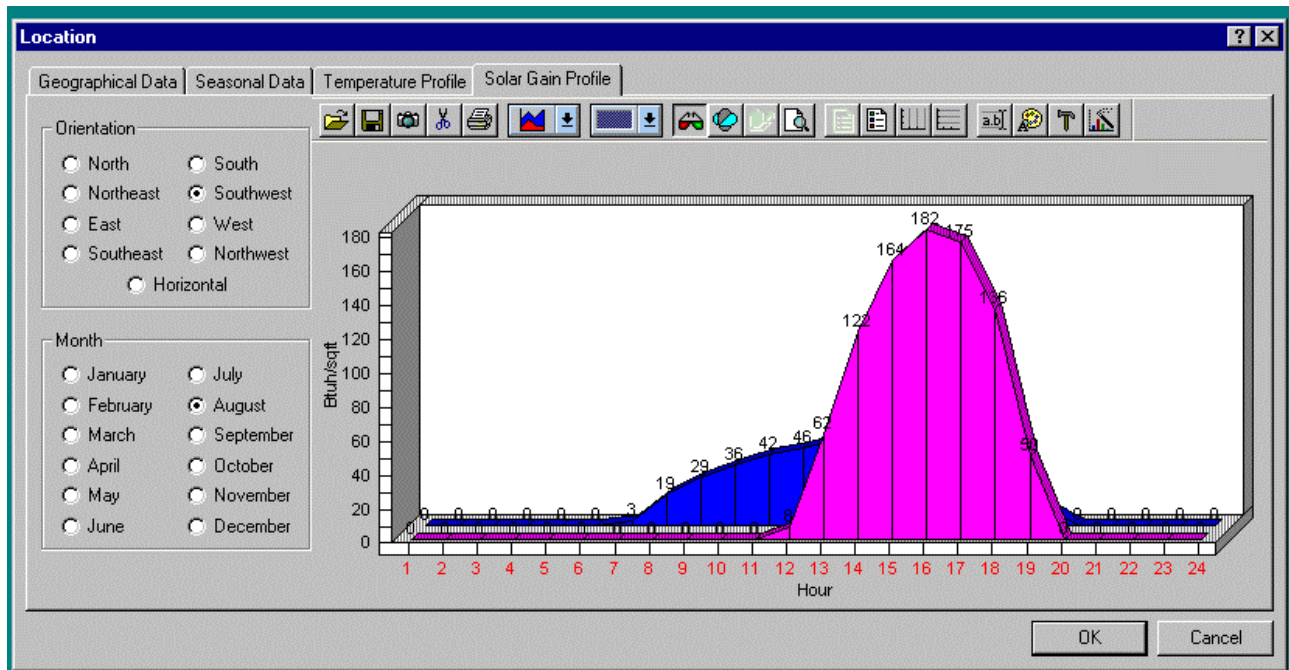

Figure 2: Load-based solar gain profile
- The Location Library contains design data and climate zones associated with 641 California ASHRAE locations and allows you to define additional locations. EnergyPro automatically creates a temperature profile and load-based solar gain profile (Figure 2) for each location. You can customize the graph format to display in several styles, colors and fonts. View and print the hourly direct and diffuse solar incidence (in Btuh/sqft) on your project at each of eight orientations during each month. The temperature profile shows dry bulb and wet bulb temperatures at specific design conditions for each month. You can also create new locations from pre-formatted weather files for analysis of buildings located outside California. A CD containing over 300 pre-formatted and source files is available from Gabel-Dodd/EnergySoft for \$99.00. The CD contains weather data from the US and Canada.